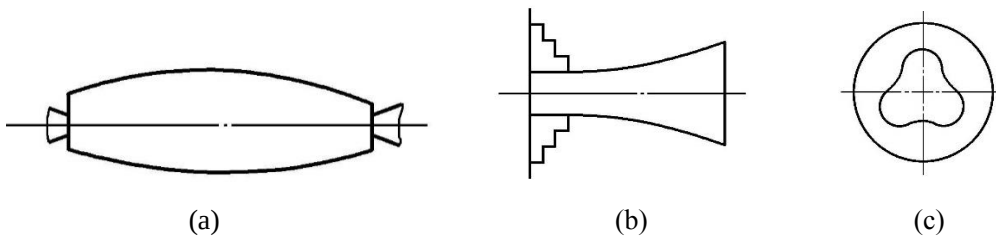

Figure 4
10. As shown in Figure 4, the slender axis workpiece (a and b in Figure 4) and thin-wall cylindric workpiece (c in Figure 4) are cut after being clamped with different fixtures on the machine tool. And different machining errors in dimension and shape occur in the machined parts. Please analyze reasons for the machining errors of the workpieces (6 points)